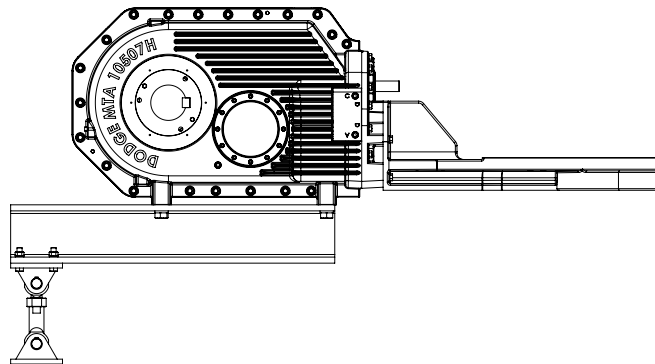

Figure 9 - Beam Mounted Incorrectly
1. To install the beam to the reducer, use appropriate lifting equipment properly designed to safely lift the beam into position. The beam should extend toward the motor end of the reducer, Figure 9. Improper mounting direction (Figure 10) will result in increased forces on the driven shaft and may result in damage to the gearbox or the driven equipment.